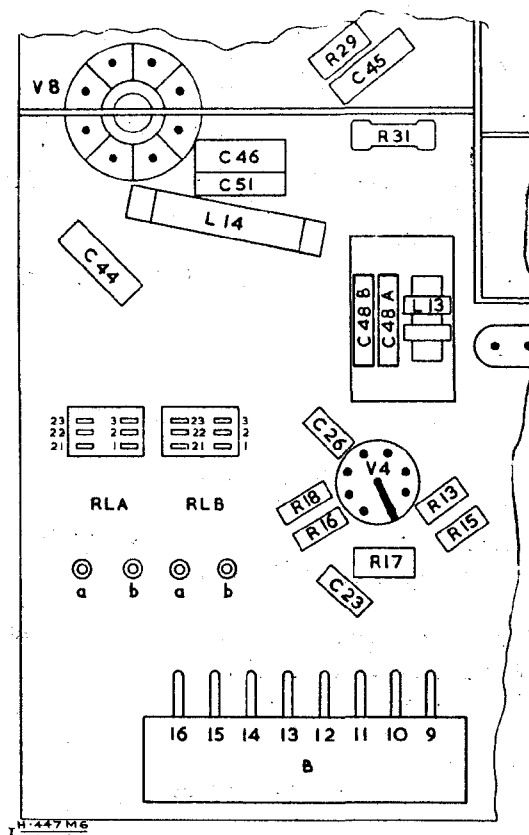

Fig 1 - Underside view of Units, RF, No 8.
- (f) Remove the existing capacitor C48 (0.001mF) from the tag panel (Fig 1).
- (g) Fit the two capacitors supplied (C48A and C48B of 470pF each) to the tag panel as shown in Fig 1.